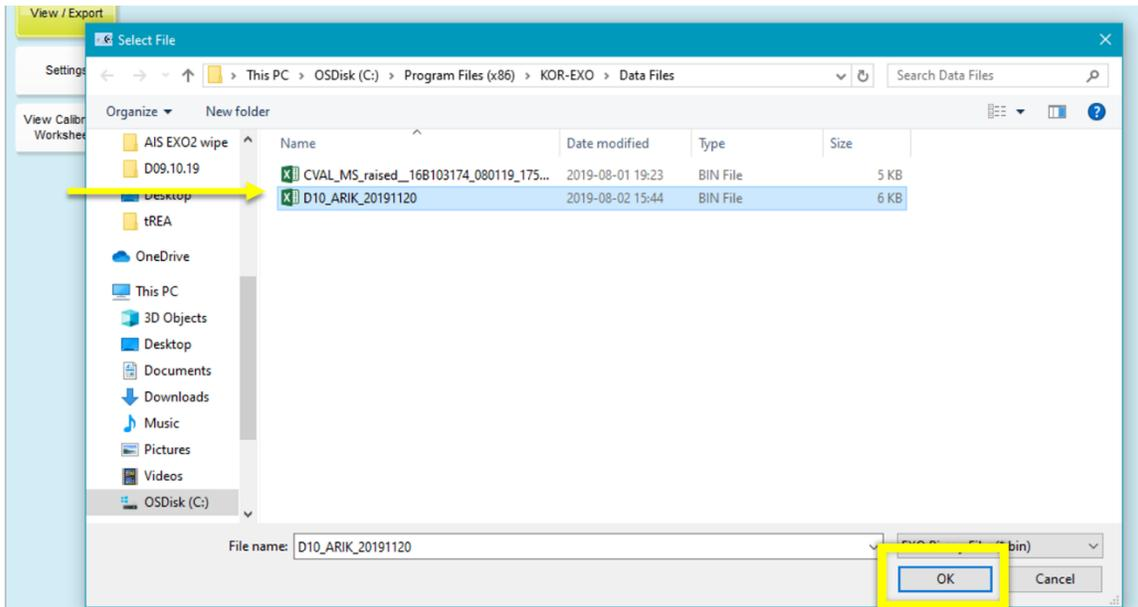

Figure 15. Select File to Download
4. In the **Select File** window, click on the file created when the logging was initially enabled (see Section 4.3) and then click **OK** (Figure 15).